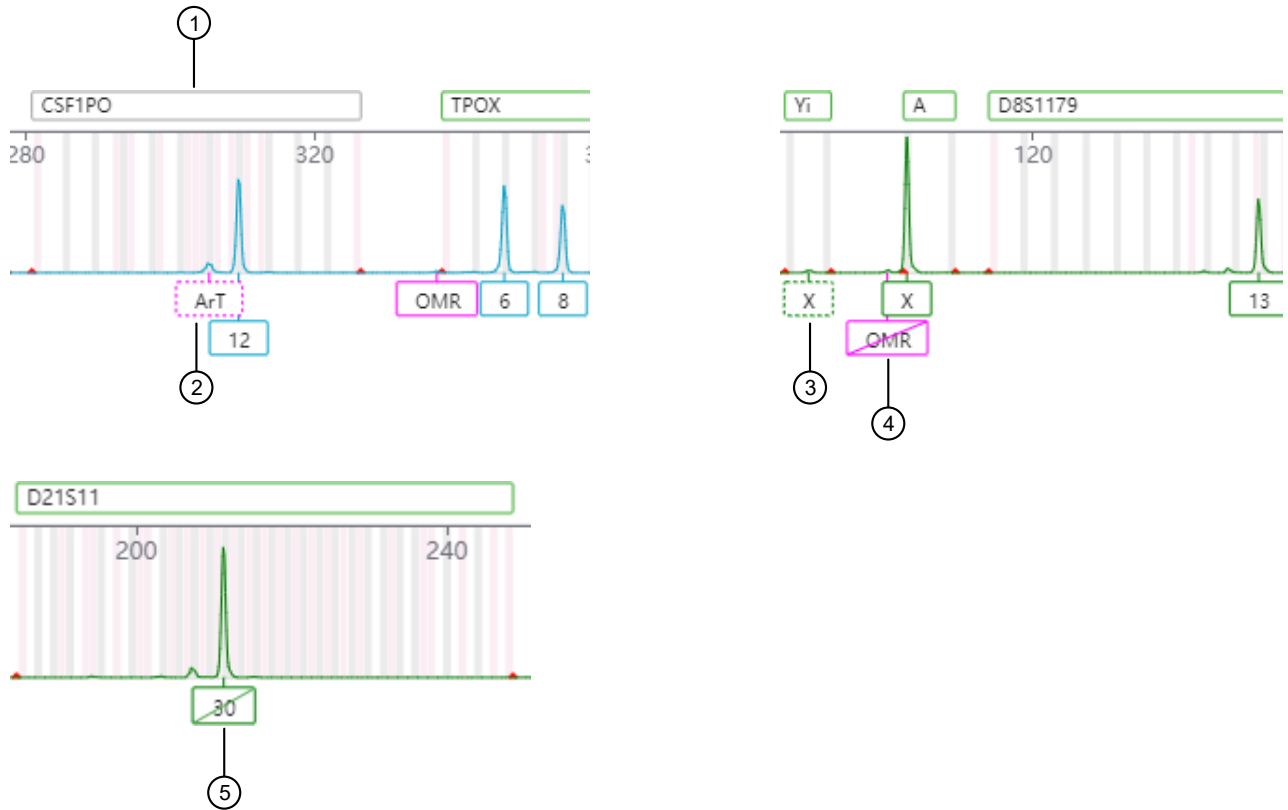

Figure 9 User changes in the trace
- **Trace**—Select **More actions** ► **User edits** to display the history of any changes made to the peaks. User changes appear in the trace as shown in Figure 9.